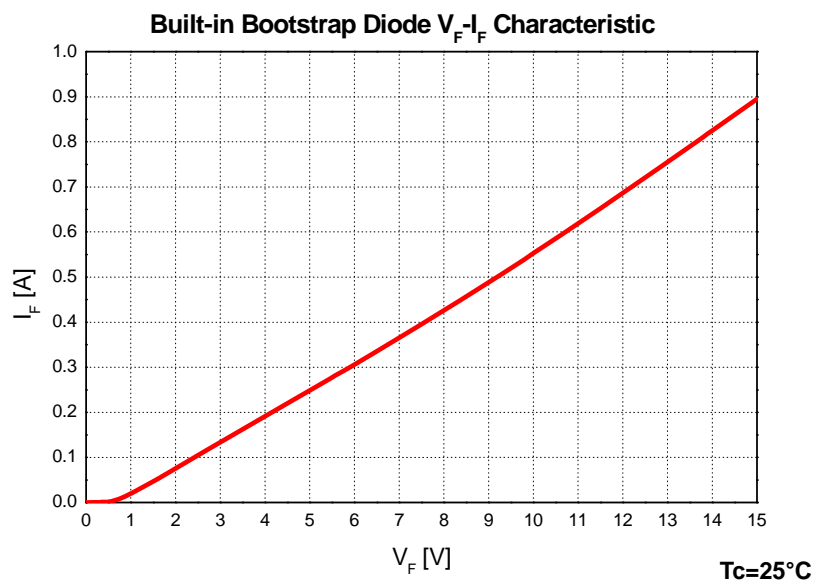

Figure 3. Built-in Bootstrap Diode Characteristics (Typical)
- Built-in bootstrap diode includes around 15Ω resistance characteristic. Please refer to Figure 3.